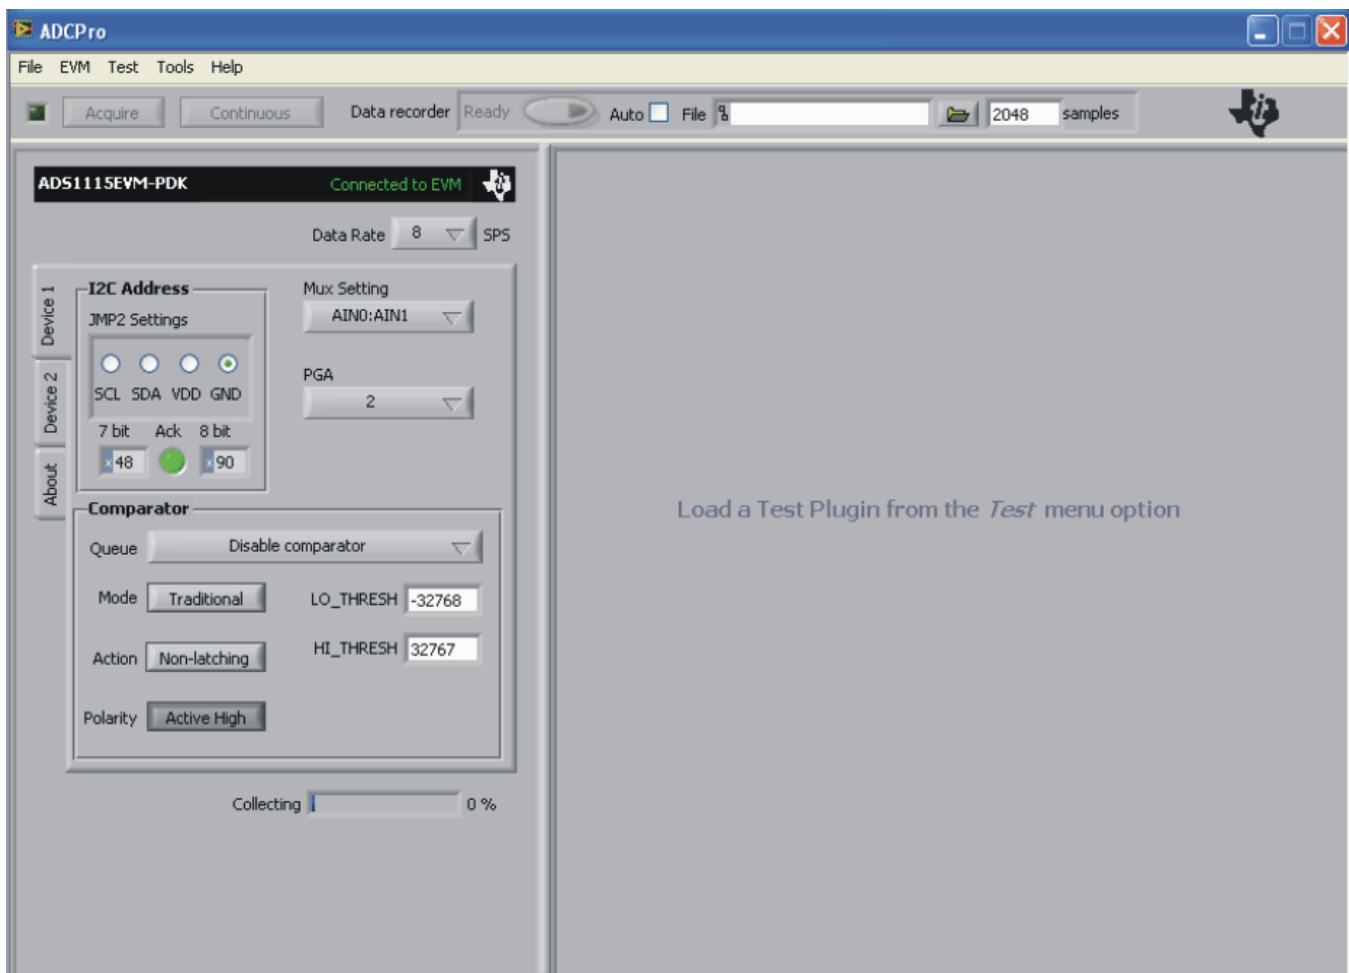

Figure 8. ADS1115EVM-PDK Plug-In Display Window
Step 2. Select *ADS1115EVM* from the EVM drop-down menu. The ADS1115EVM-PDK plug-in appears in the left pane, as Figure 8 shows.